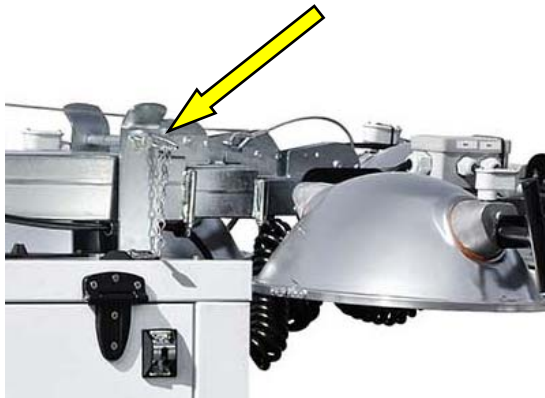
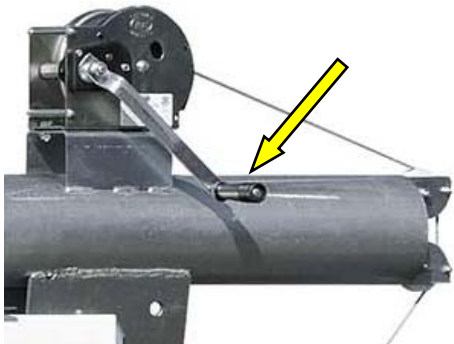

Figure 15 : Safety pin
Figure 16 : Vertical positioning of column
3 Take out the column's safety pin (figure 15) and then perform the first raising phase, from horizontal to vertical position, by turning the hoist crank handle with automatic brake (figure 16).
- ⑤ Insert the column's safety pin (Figure.15).
- ⑥ Raise the front and rear stabilisers using the handle and bring the stabilisers to their rest position.